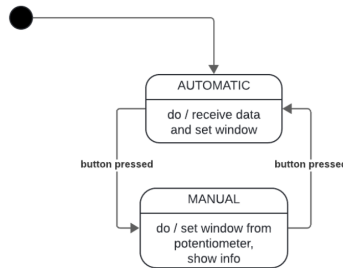

Figure 1: Window Controlling Task State diagram
1. **Window Controlling Task:** responsible for controlling the opening of the window, implemented as an FSM shown in **Figure 1**